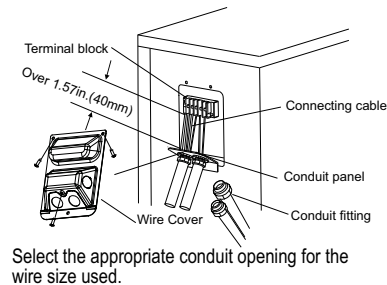

Fig. 15 —Field Wiring
5. Connect the conduit to the conduit panel (see Fig. 15).